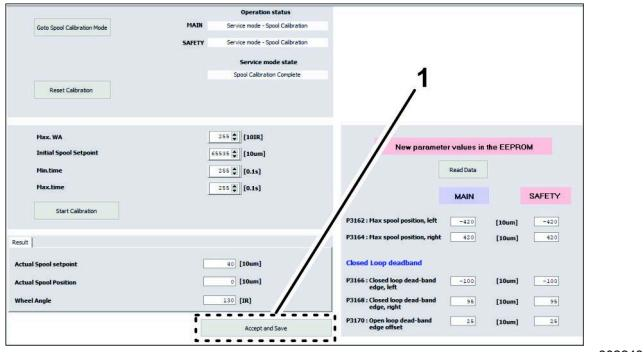

Figure 52
- At the bottom of the spool calibration screen, click the ACCEPT AND SAVE icon (Figure 52).